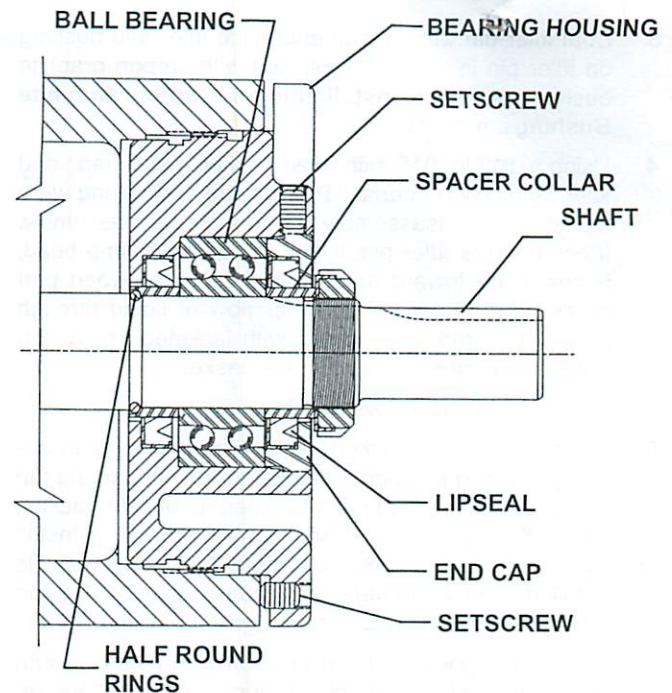

FIGURE 8
4. Loosen two setscrews in the face of the bearing housing and remove the bearing housing assembly from the bracket. **Refer to Figure 8.**